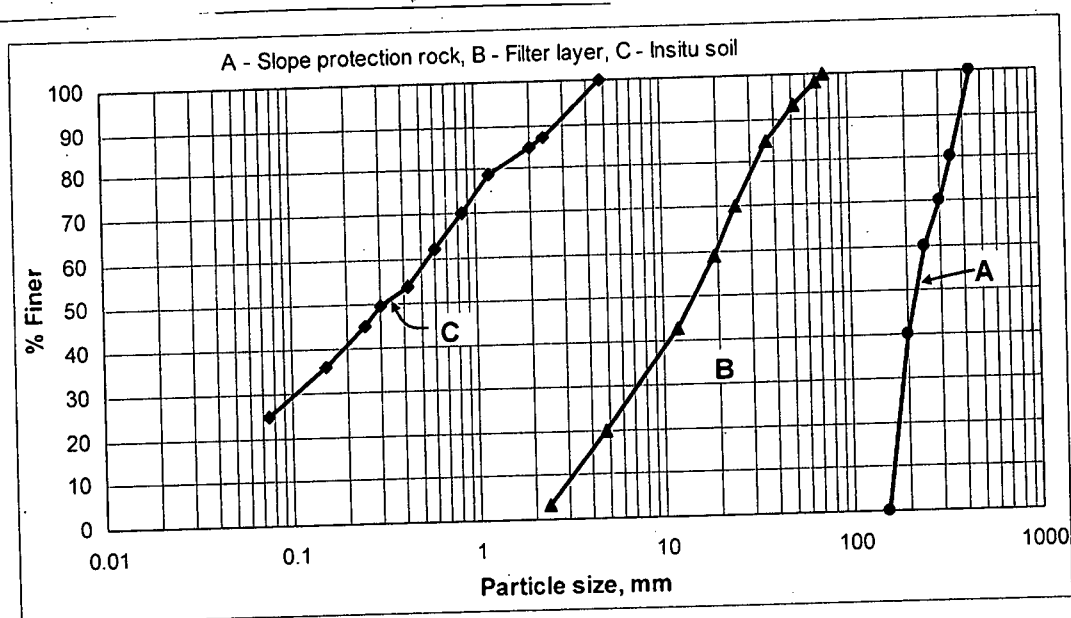

Fig.2
4. (a) Define important hydraulic properties of geotextiles. (7)
- (c) A revetment work is to be done on a river bank with rock rip-rap. A filter layer of intermediate sized material between the soil and the rock will also be placed. The gradation curve of the insitu soil, filter layer and the rock rip-rap layer are shown in Fig. 2. Will this filter layer work for erosion protection and drainage? Comment on the basis of appropriate analysis. (8)